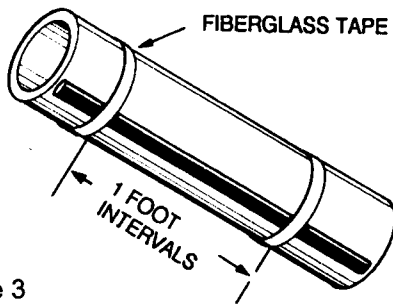

Figure 3
4. Attach heating cable to pipe with fiberglass tape at one foot intervals.. (See Figure 3) The cable should fit snugly against the pipe.